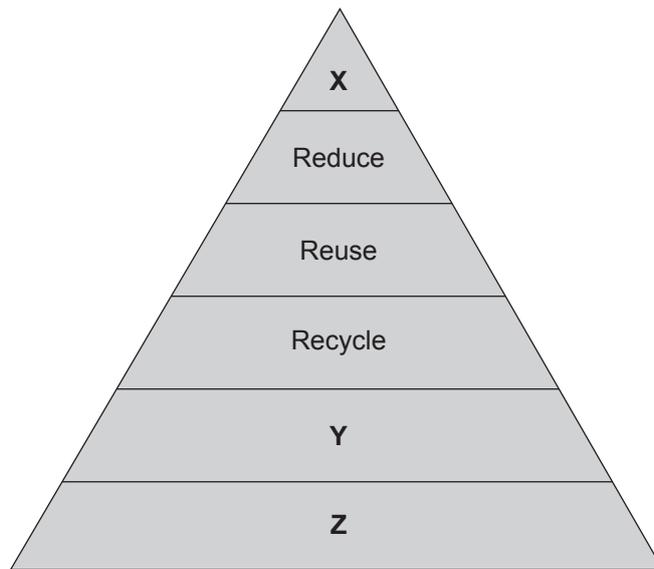

Fig. 1
- 1 (a) A diagram illustrating the Waste Management Hierarchy is shown in Fig. 1.
Identify the waste management strategies **X**, **Y** and **Z** in Fig. 1.